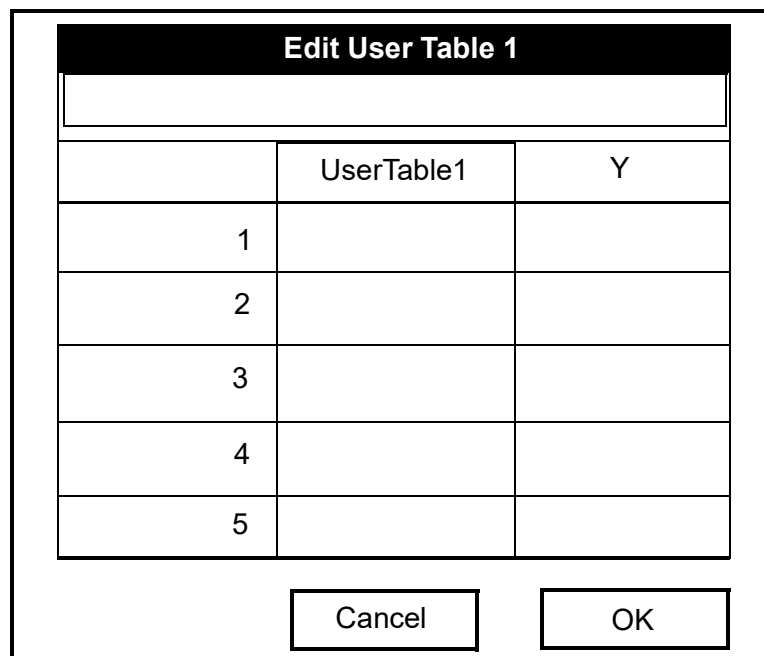

Figure 112: The Edit User Table Window
- d. When you have completed the label, press **[F3]** (OK) to confirm the label, or **[F2]** (Cancel) to leave the window without adding the label.
- a. Press **[ENTER]** to open the window. The screen appears similar to Figure 112 below.